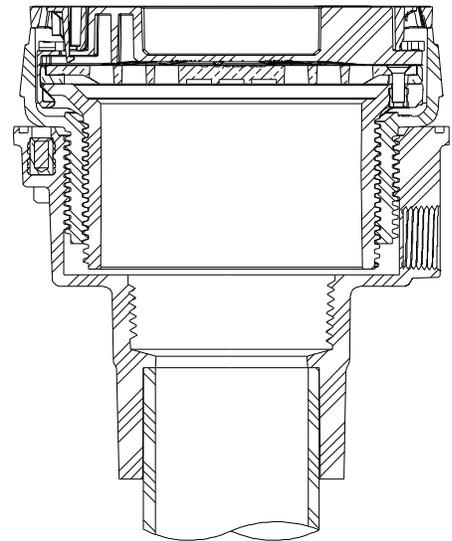

Fig. 2
2. Solvent weld drain body on pipe and pressure test connection per local code requirements. See Fig. 2 (2x3 body shown for reference)